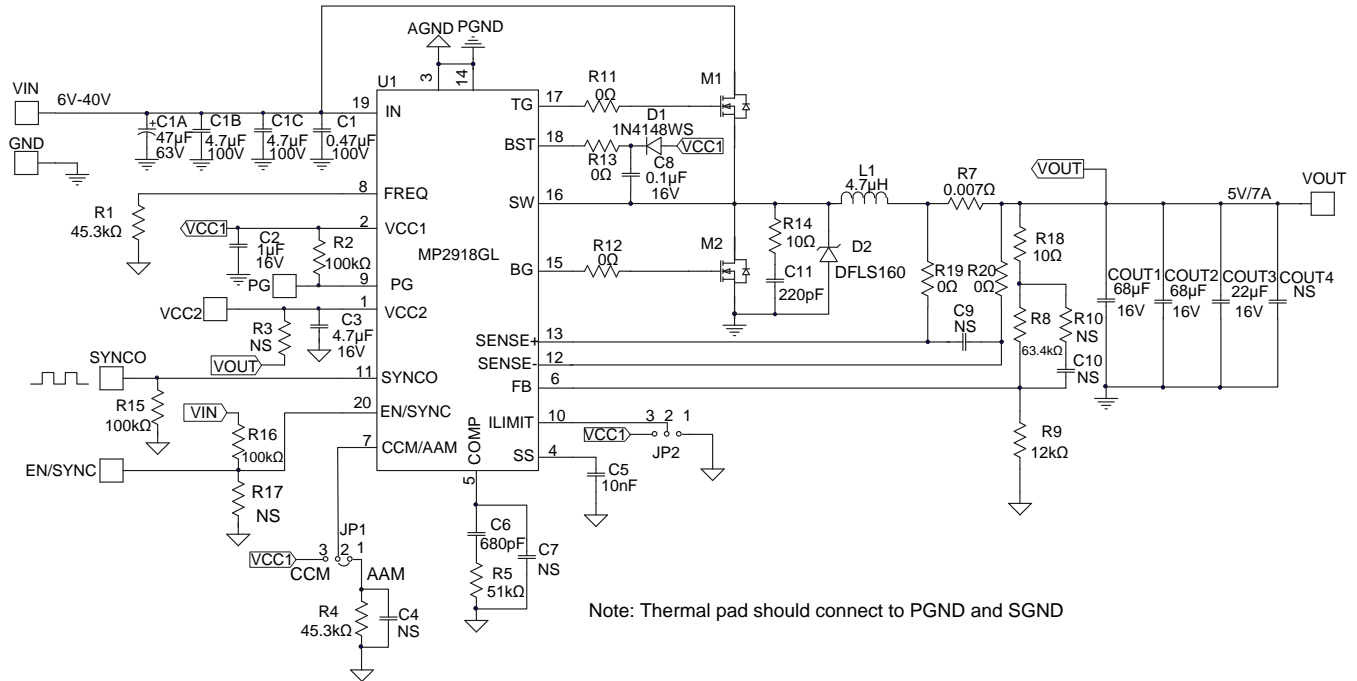

Figure 14: 5V Output Application Circuit for QFN Package
7) The recommended PCB layout is based on Figure 14.